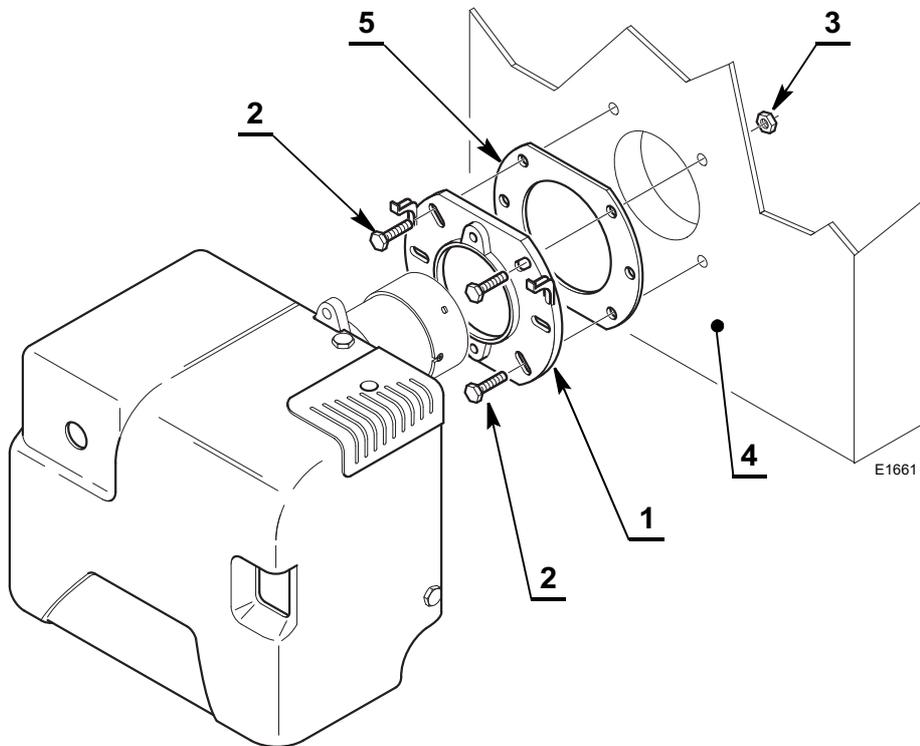

Fig. 8
- Fix the flange 1)(Fig. 8) to the boiler door 4) using screws 2) and (if necessary) the nuts 3) interposing the insulating gasket 5).